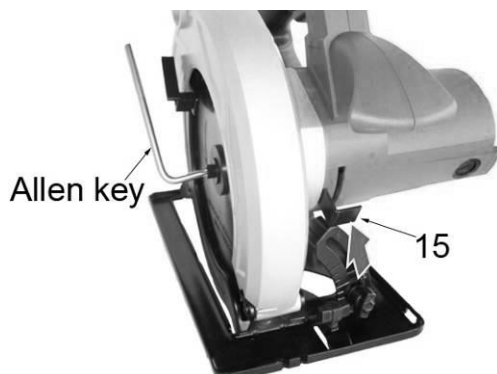

Fig. 3
2. Push the spindle lock button (15) toward motor housing as the arrow shows in Fig. 3 and firmly hold it.
3. Turn the blade clamp bolt (13) anti-clockwise by using the Allen key that supplied with the tool.
4. Remove the blade clamp bolt and outer flange (12).
5. Raise the lower guard (14) by using the lever for lower guard (1), and then remove the saw blade.